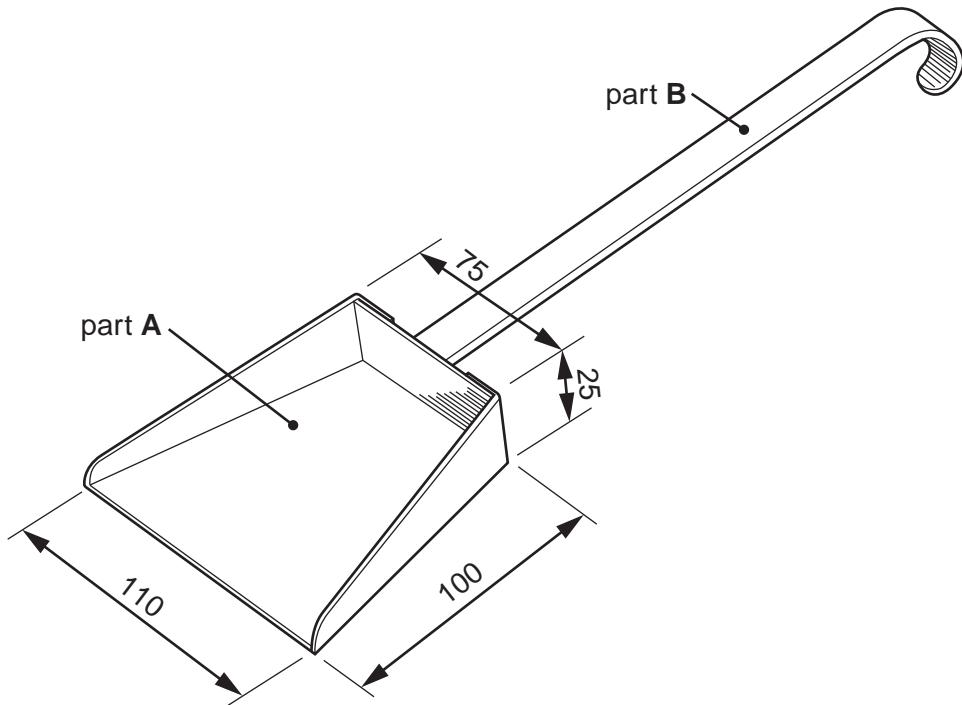

Fig. 1
- 1** Fig. 1 shows a small shovel which is to be made in a school workshop. The shovel will be used to move hot charcoal on a barbecue.